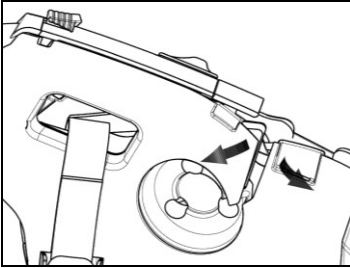

Fig. 16
- Lift up the plastic lining of the cheek padding (Fig. 16).